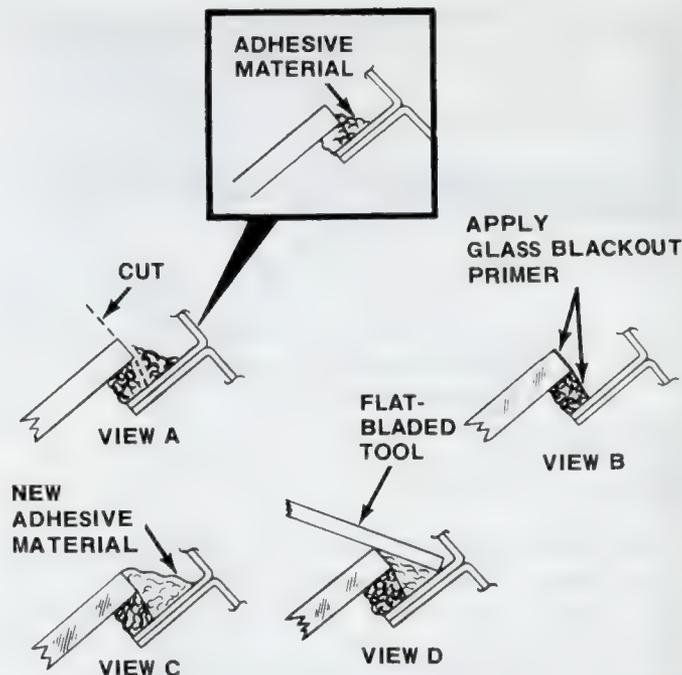

Fig. 3N-7 Water Leak Repair
(4) From outside body, clean dirt or foreign material from leak area with water; then completely dry area with compressed air.
(5) Using Electric Hot Knife J-24709-01 and plow blade J-24851, cut out edge of adhesive material (View A, fig. 3N-7) at leak point and one or two inches on both sides of leak point.
(6) Using a very small brush, apply glass blackout primer to edge of glass (View B, fig. 3N-7).
(7) Apply adhesive material, using pointed nozzle supplied with kit, replacing material removed in step (5) above (View C, fig. 3N-7).
(8) Immediately after performing above step, use a suitable flat-bladed tool to work adhesive material into leak point (View D, fig. 3N-7).
(9) Water test windshield immediately using cold water spray. Allow water to spill over edge of glass. Do not direct hard stream of water on fresh adhesive material.
(10) Install all previously removed parts.